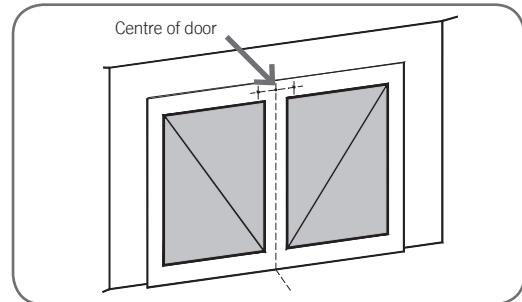

Fig. 18
- Draw two lines 21.5mm either side of this (**Fig. 18**).
- Rest the opener on the top edge of the door with the end of the C-Rail against the wall (**Fig. 18**).